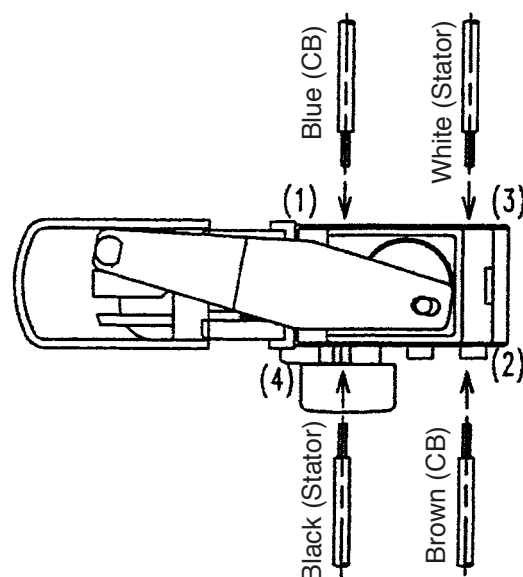

Fig. 31 Wiring of reversing switch
Insert the lead wire (black) coming from the stator into the terminal (4) of the reversing switch, and the lead wire (white) into the terminal (3) as shown in Fig. 31.